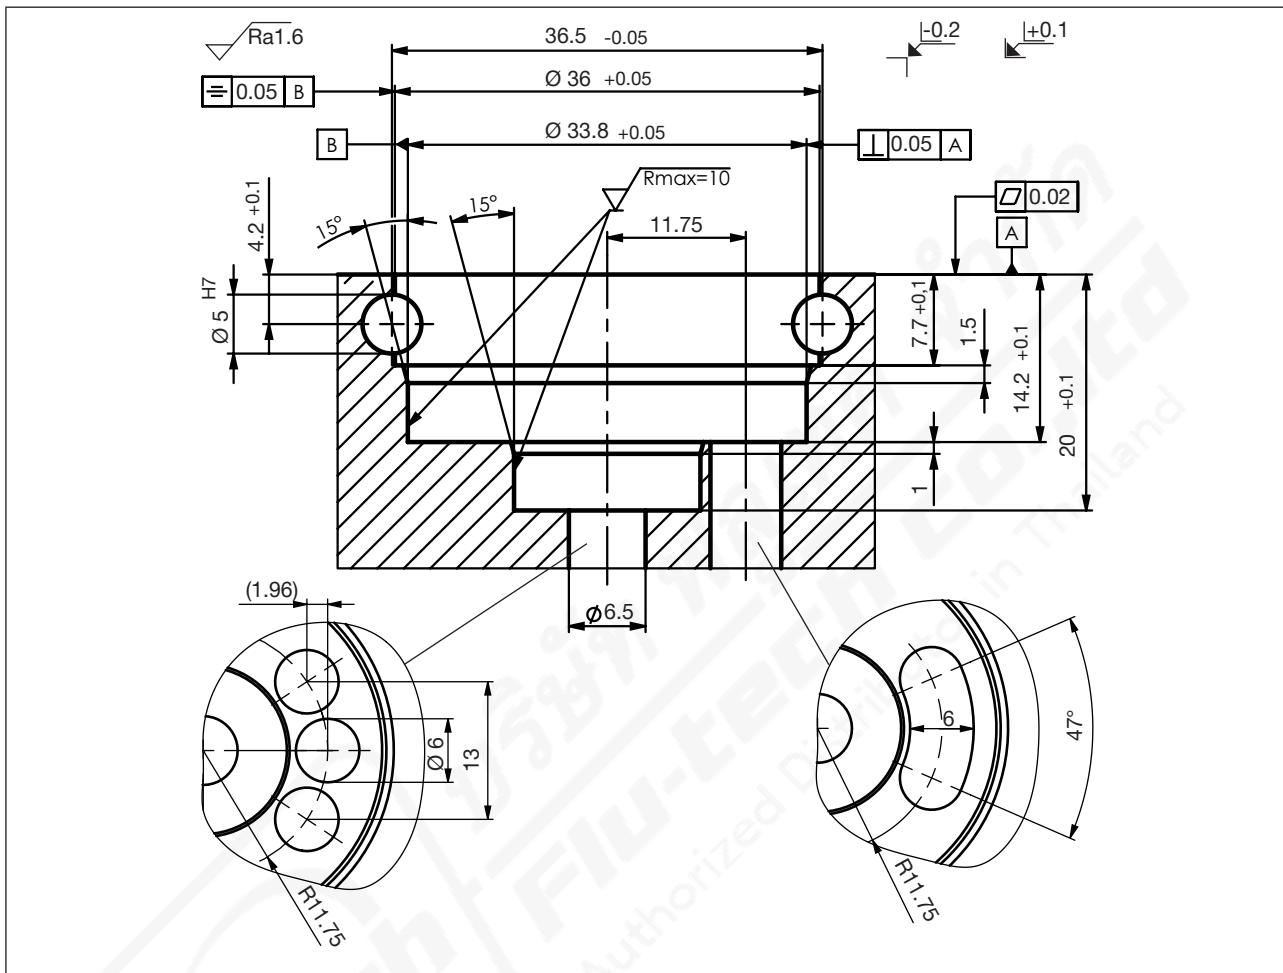

Fig. 10: Installation area for cartridge body, seat size 1 to 6
- Install valve (see "Fig. 10") and align. When installed, the valve can no longer be turned.